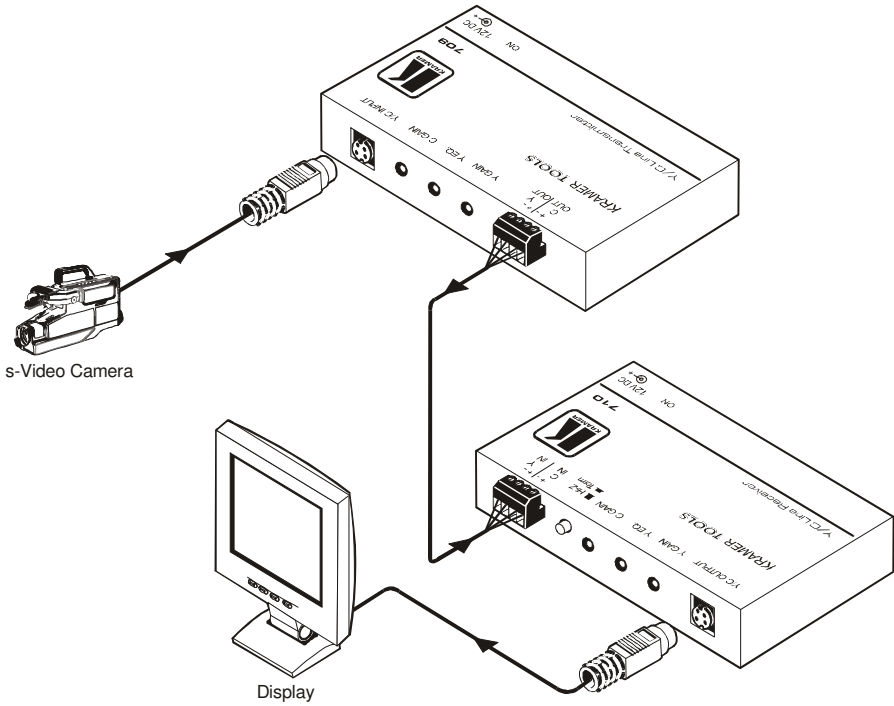

Figure 6: Connecting the 709/710 Y/C Line Transmitter / Receiver System
You can use the **709** and **710** to configure a Y/C Transmitter and Receiver system. To connect the **709 Y/C Line Transmitter** with the **710 Y/C Line Receiver**, as illustrated in the example in Figure 6, do the following:
4. On each **709 / 710** unit, connect a 12V DC power adapter to the power socket and connect the adapter to the mains electricity (not shown in Figure 6).